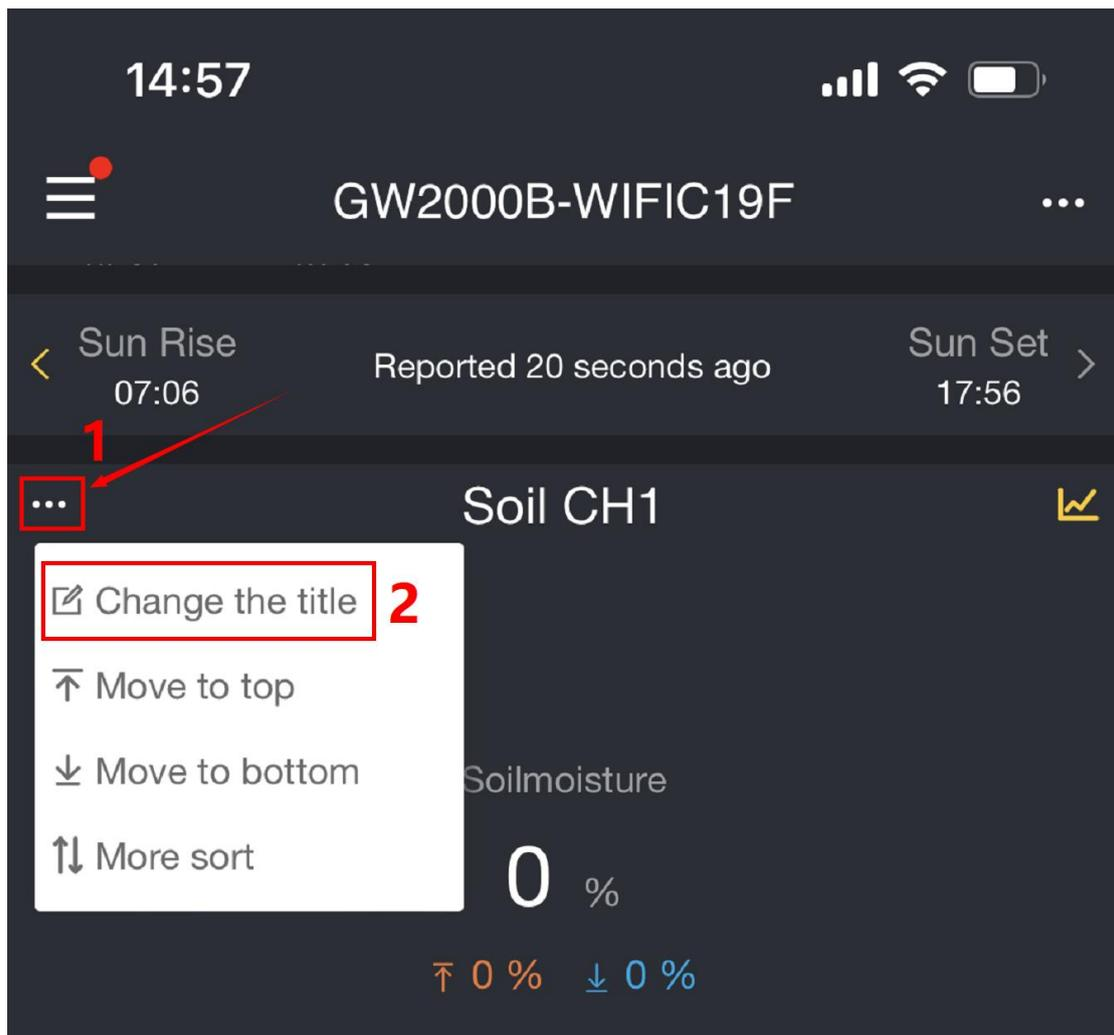
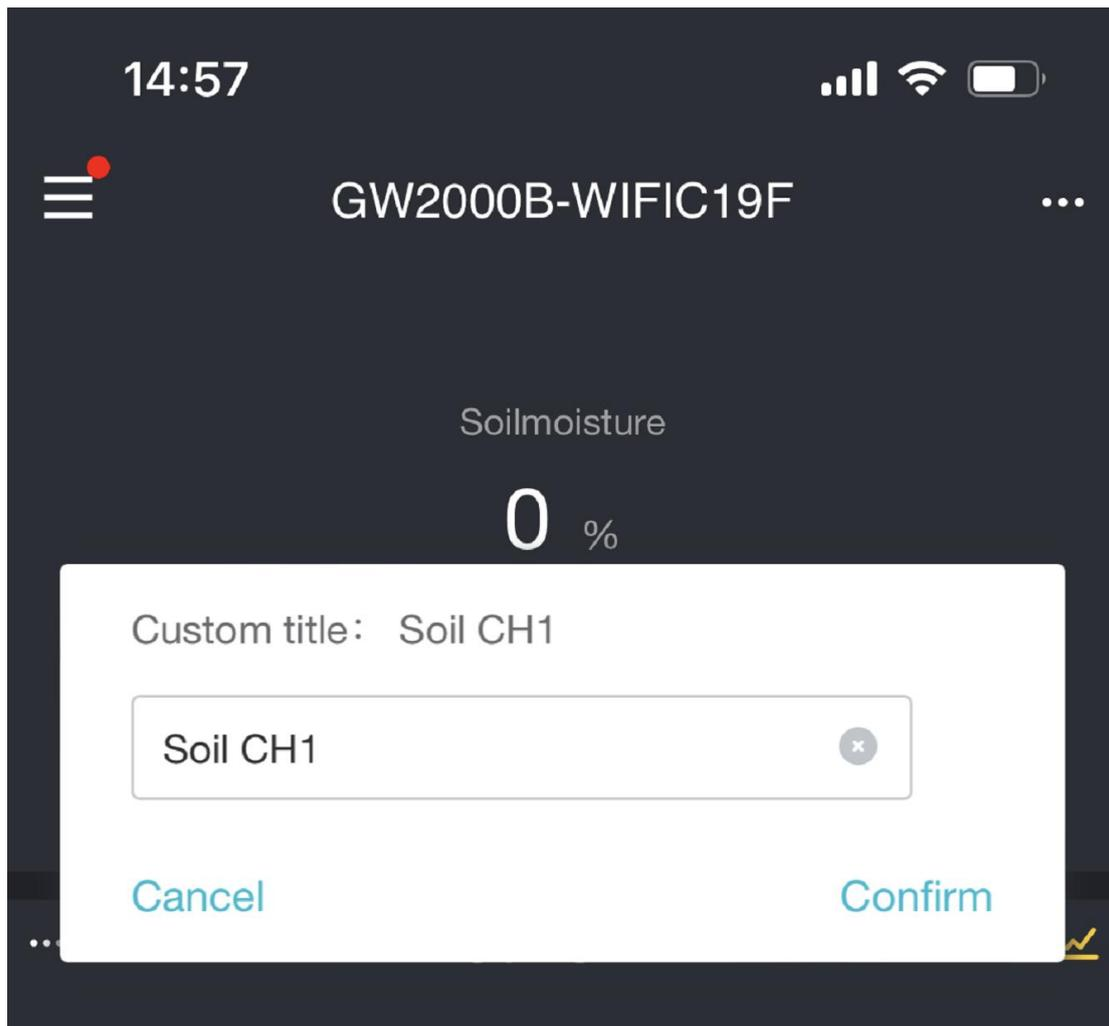
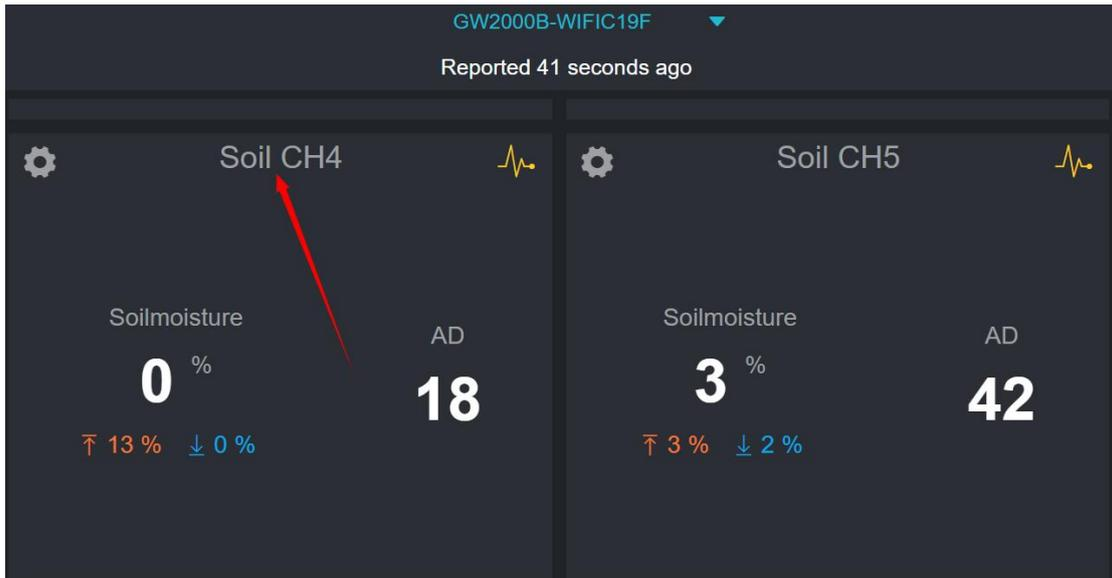
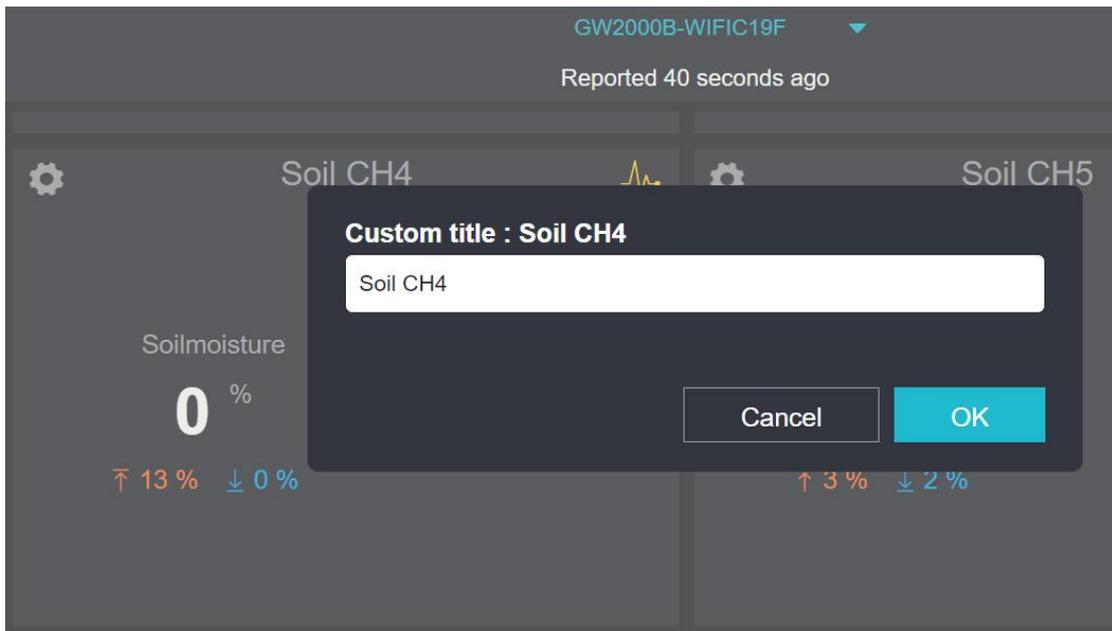

Figure 19
Figure 20
Figure 21
Figure 22
- Click '...' of the top left corner of the sensor channel and choose the 'Change the title' like the Figure 19.
- Edit the channel name on the pop-up and finally click Confirm, like the Figure 20.
- Find your sensor's channel and directly click the channel title, for example, click the 'Soil CH4' like the Figure 21.
- Edit the channel name on the pop-up and click 'OK' like the Figure 22.
- The channel's names could only be edited on the Ecowitt APP or website (ecowitt.net). For example, when you edit the channels' names on Ecowitt app, please refer the Figure 18~ Figure 19; when you edit the channels' names on ecowitt.net, please refer the Figure 21~ Figure 22.
The channel's names could only be edited on the Ecowitt APP or website (ecowitt.net). For example, when you edit the channels' names on Ecowitt app, please refer the Figure 19~ Figure 20; when you edit the channels' names on ecowitt.net, please refer the Figure 21~ Figure 22.